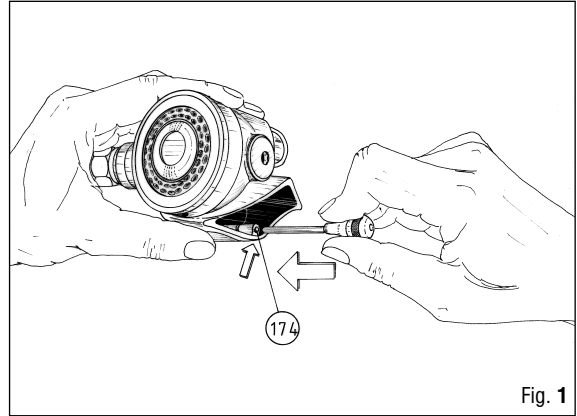

Fig. 1
3. Remove the mouthpiece (44).
4. Remove the fixing pin (174) from the cap (41) of the exhaust tee (Fig. 1).
NOTE FOR THE OPERATION DESCRIBED IN STEP 4, IT IS RECOMMENDED TO USE A METAL PRICKER HAVING A MAX DIAMETER OF 2MM (Fig. 1).